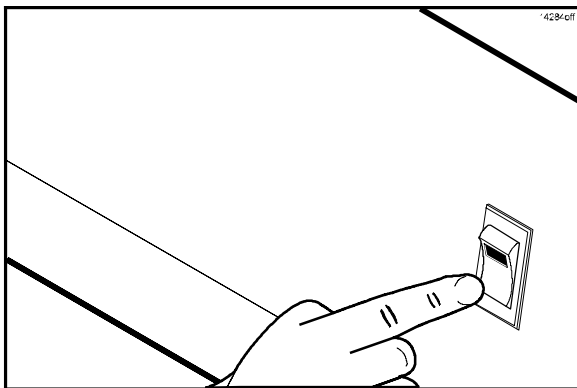

Figure 78
- Place the fan interlock switch in the OFF position. (See Figure 78.)